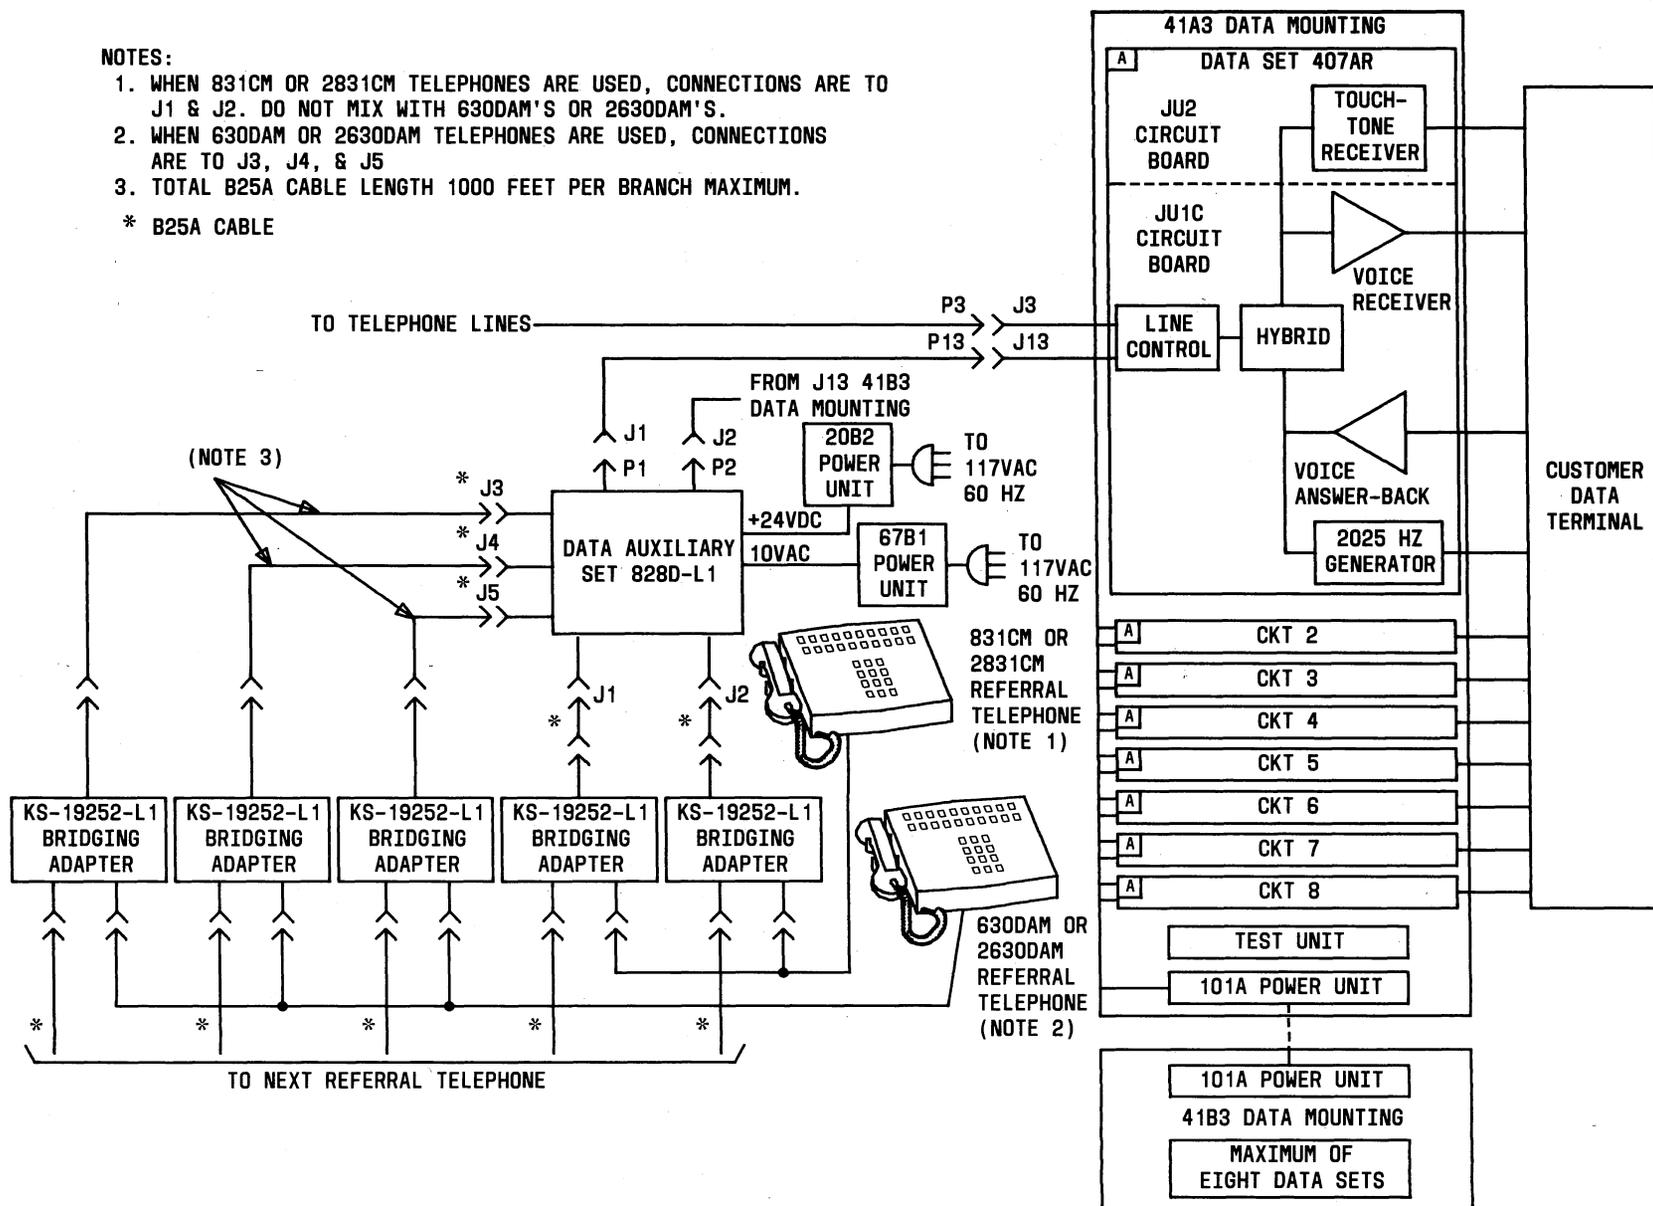

Fig. 11—407AR Multiple Data Station Arrangement Functional Block Diagram—Typical
- 24 If an 831CM, 2831CM, 630DAM, or 2630DAM telephone set is specified for use in a referral telephone arrangement, make connections as shown in Fig. 11 using an 828D-L1 DAS and KS-19252-L1 bridging adapters as required.